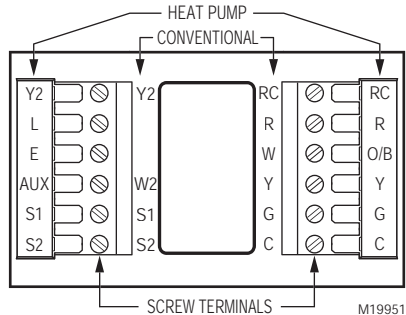

Fig. 7. Selecting terminal identifications for system type.
- 1. Select set of terminal identifications (Table 1) that corresponds with system type (conventional or heat pump in Fig. 7).